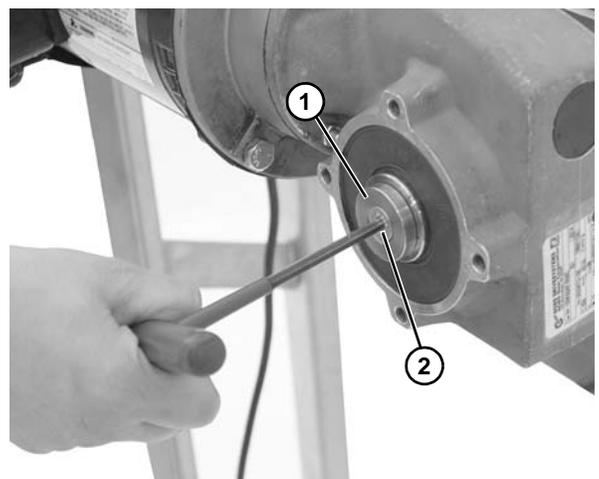

Figure 18
4. Install drive shaft clamp washer (**Figure 18, item 1**) and flat head screw (**Figure 18, item 1**) onto the drive shaft. Tighten flat head screw.